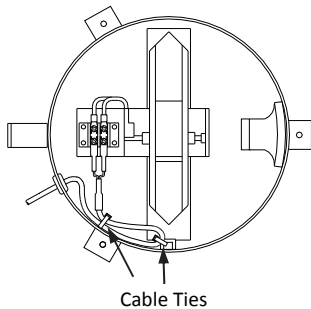

Figure 2: Service Loop
- From outside of housing, feed the wire end of the cable through the rubber grommet. Slide the wires back into the terminal block until no bare wire is showing, but only far enough so that the terminal block screws clamp down on the bare wire and not the black and white insulation. (The polarity of the input connection is not important.) Tighten the terminal block screws and then gently tug the wires to ensure they are secure. **Make sure any excess cable inside of housing is secured so that it does not interfere with the operation of the tipping bucket mechanism!** If possible, create service loop for cable by using two small cable ties to loop and secure cable to cable tie mount (see Figure 2).